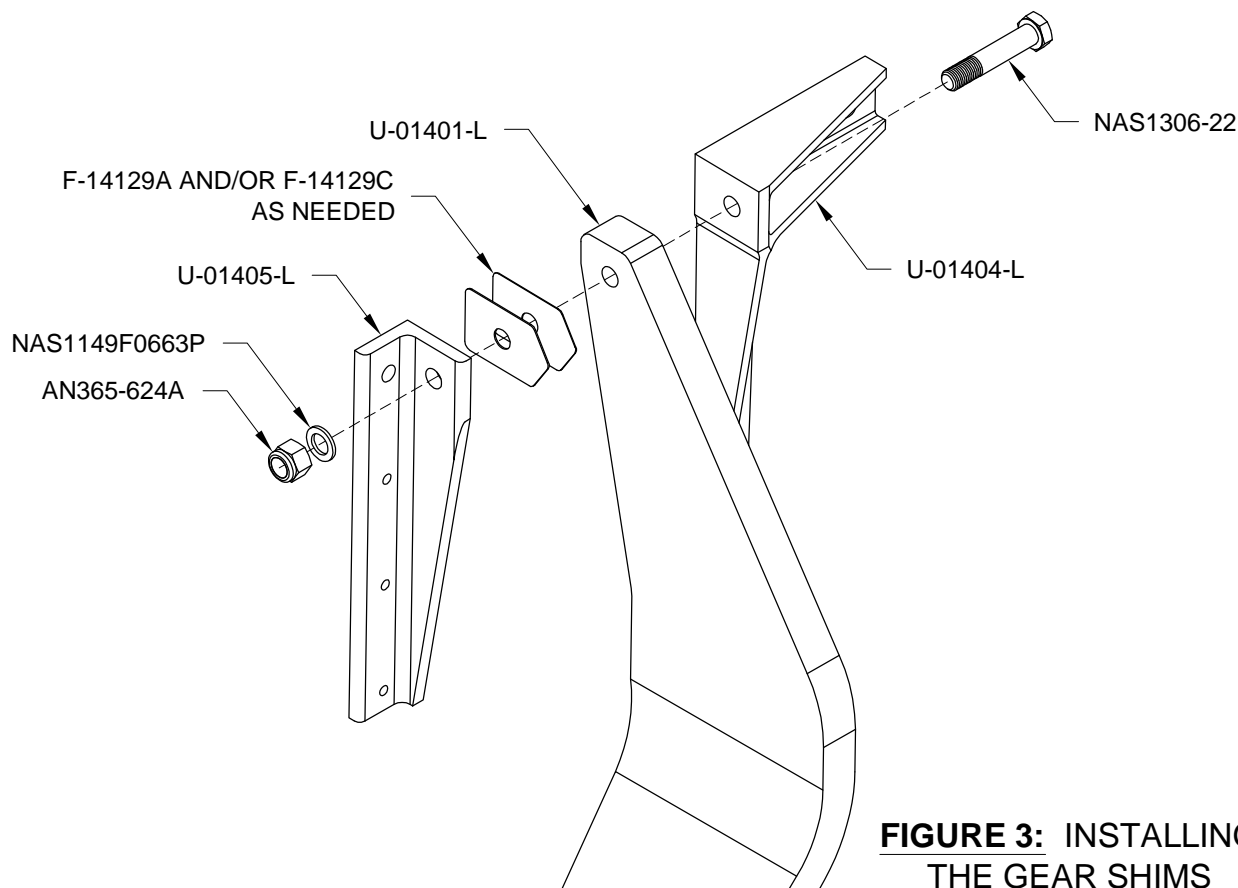

FIGURE 3: INSTALLING THE GEAR SHIMS
Step 4: Install the F-14129A and/or F-14129C Shims shown in Figure 3 as needed, then push the bolt at the top of the U-01401-L Main Landing Gear through the U-01405-L Gear Attachment Angle and install the called out washer and nut.